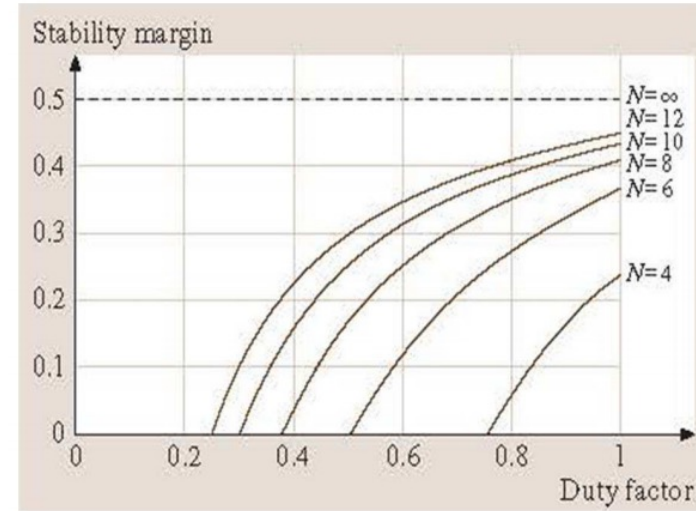

Fig. 17. Duty factor and stability margin
- Duty factors: The duty factor is related to stability. Figure 17 shows the duty factor as function of the stability margin with the number of legs as the parameter.